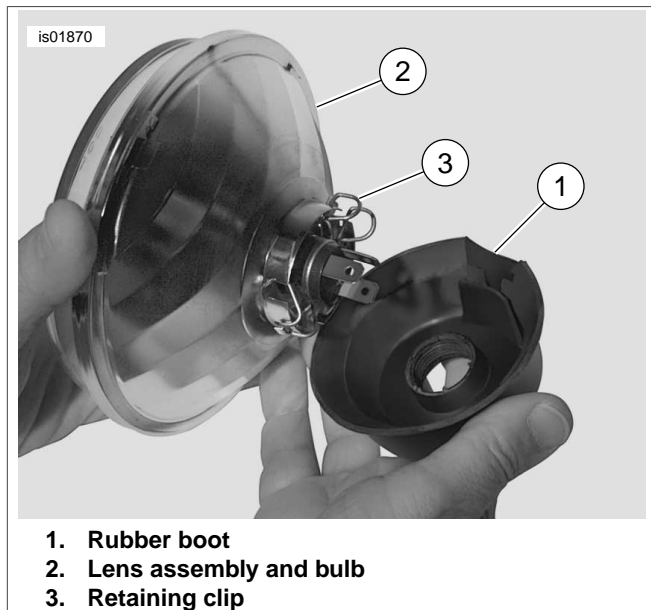
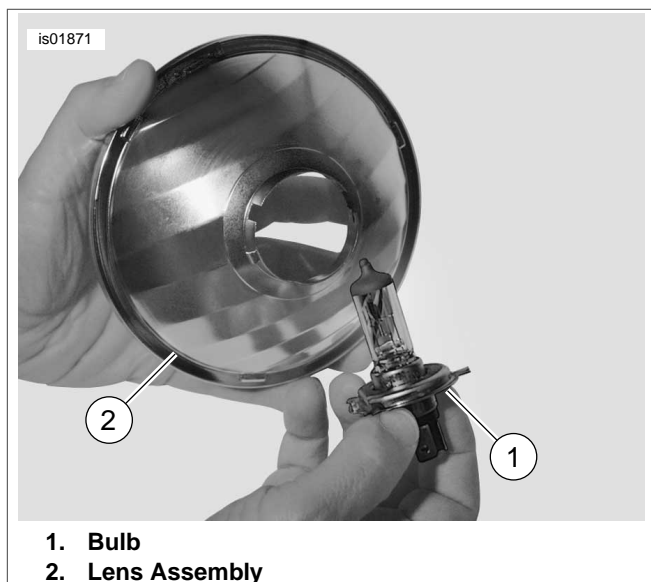

Figure 19. Lens Assembly, Retaining Clip, and Rubber Boot
Figure 20. Lens Assembly and Bulb
8. See Figure 19. Remove rubber boot (1) from back of lens assembly and bulb (2).
9. Press ends of retaining clip (3) to unhook from notched retaining post, then pivot retaining clip back.
10. See Figure 20. Remove bulb (1) from lens assembly (2).
1. See Figure 20. Fit replacement bulb (1) into lens assembly (2).
2. See Figure 19. Pivot the retaining clip (3) over the bulb and press the ends into the retaining post.
3. Install rubber boot (1) into back of lens assembly (2).